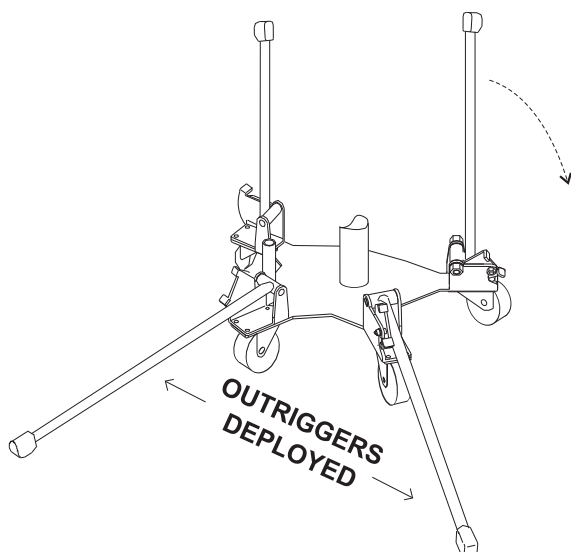

Figure 8. Outriggers (Deployed Position)
3. Pull outriggers downward at the ends until they lock in place in the ground (Figure 8).